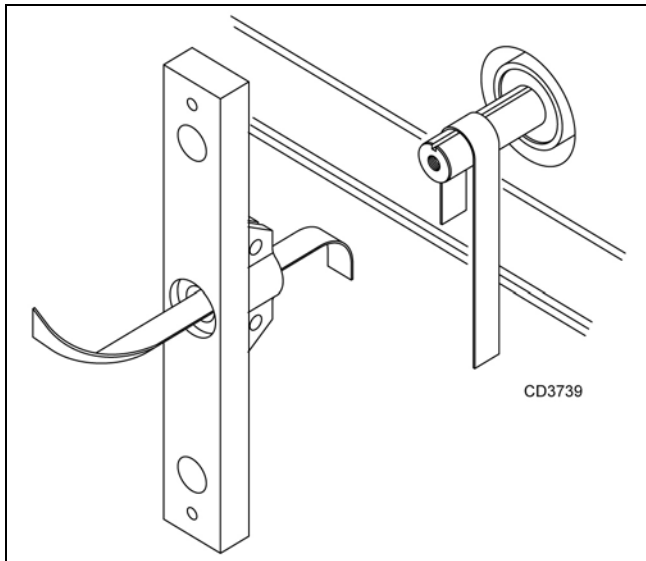

Figure 21
- Using emery cloth (220 or finer), remove surface rust, Loctite® and foreign material from hub, splined gearbox, vertical shaft, and crossbar as shown in Figure 21.